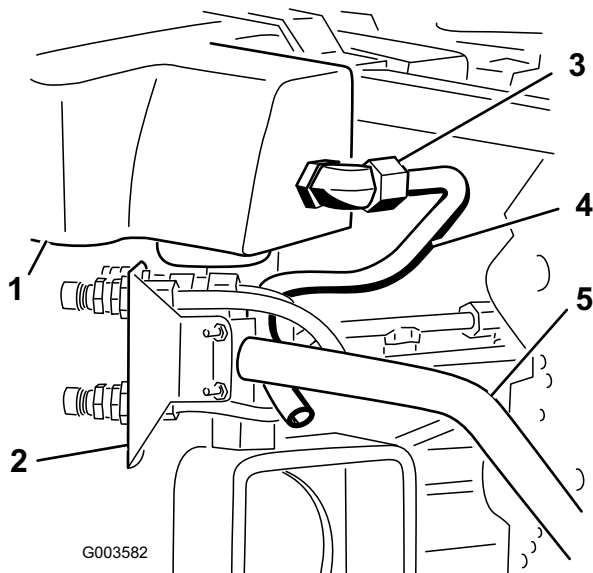
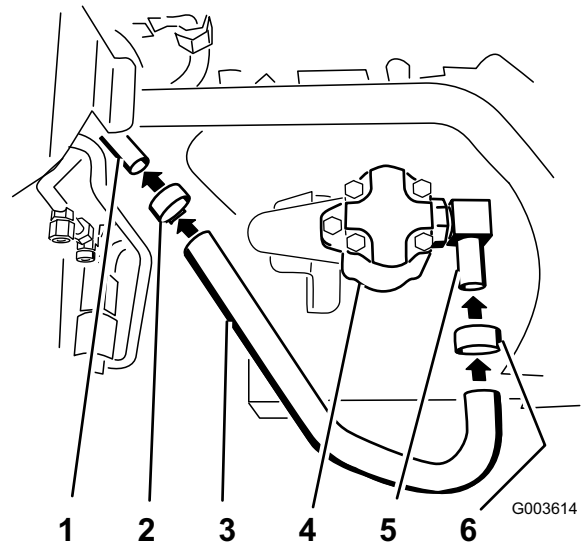
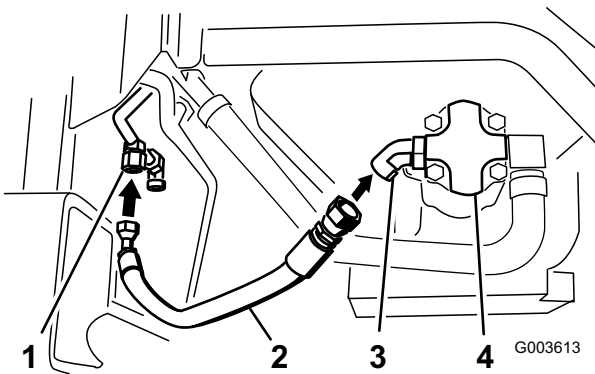
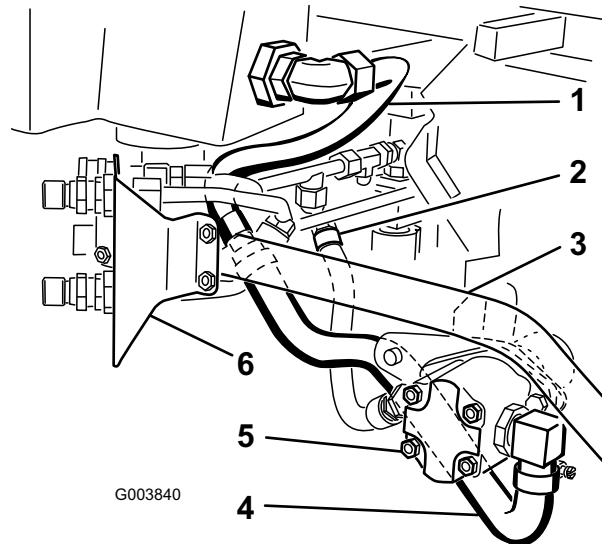

Figure 25
Figure 26
Figure 29
Figure 30
4. Position hydraulic line number 3 into the machine as shown in Figure 25.
5. Install hydraulic line number 3 to the large 90 degree elbow installed to the strainer and hydraulic tank (Figure 25 and Figure 30).
2. Install the large hydraulic hose to the 90 degree elbow installed to the side of the hydraulic pump (Figure 26 and Figure 30).
3. Tighten a hose clamp around the hose and elbow (Figure 26).
4. Install the large hydraulic hose to hydraulic line number 3 (Figure 26).
5. Tighten the hose clamp around the hose and hydraulic line number 3 (Figure 26).
7. Install the hydraulic hose with fittings to the 45 degree elbow attached to the hydraulic pump (Figure 29 and Figure 30). It will be below the hydraulic cylinder.
8. Use Figure 30 for the correct locations of the hoses and hydraulic lines to the hydraulic pump.